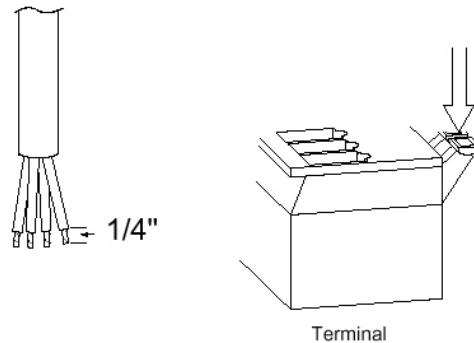

Figure No. 4
7. Remove 1/4" of insulation from the end of each of the 4 wires (without sense leads) or 6 wires with sense leads (refer to figure No. 4).
3. Remove 3" of the outer insulation jacket then remove 1/4" of insulation from each of the 4 wires and shield (without sense leads) or 6 wires and shield (with sense leads). Refer to Figure No. 4.
3. Remove 2" of the outer insulation jacket then remove 1/4" of insulation from each of the wires (refer to Figure No. 4).